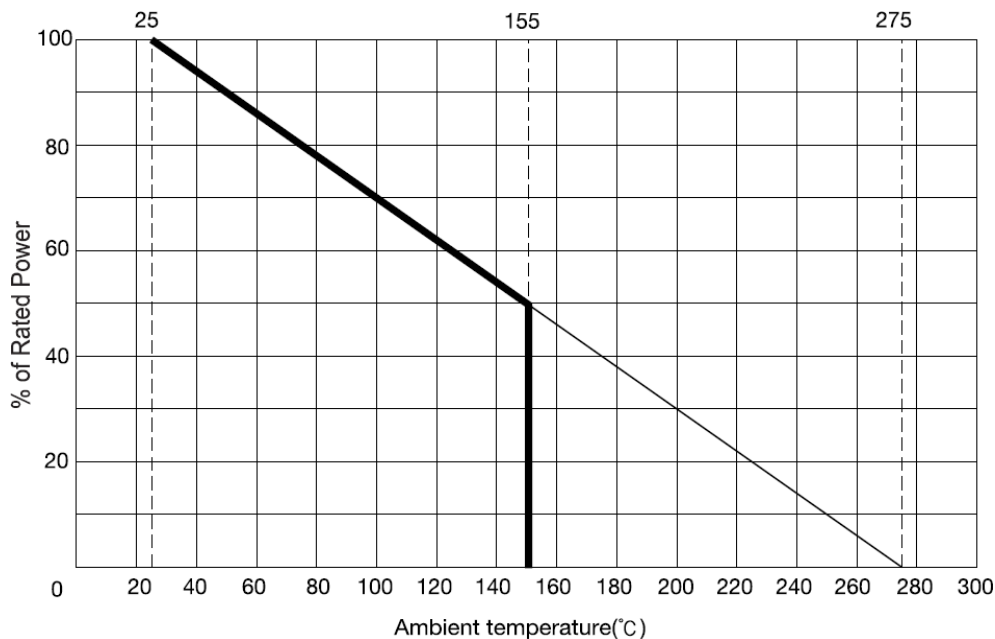

Figure 18. De-rating Curve Example of Shunt Resistor (from RARA Elec.)
- Modulation Index (MI): 0.9
- Power Factor (PF): 0.8
- De-rating Ratio of Shunt Resistor at $T_{SHUNT} = 100\text{ }^\circ\text{C}$: 70% (refer to Figure 18)